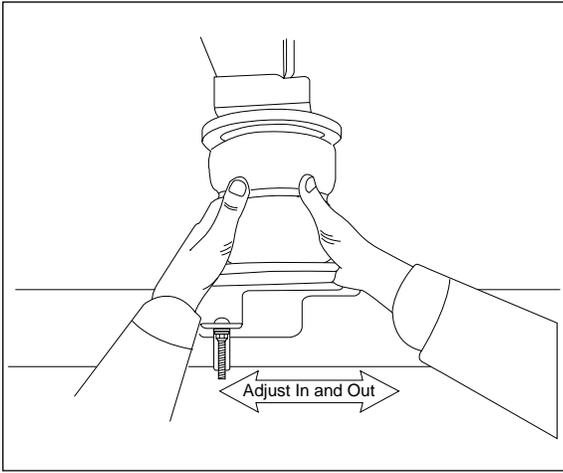

Figure 4
*NOTE: The bottom adjusts by moving the bracket on the axle in or out (Figure 4).*
5. Attach the axle strap (F) to both lower bracket carriage bolts using two flat washers (J) and two nylock nuts (L). Torque evenly to 16 ft/lbs.